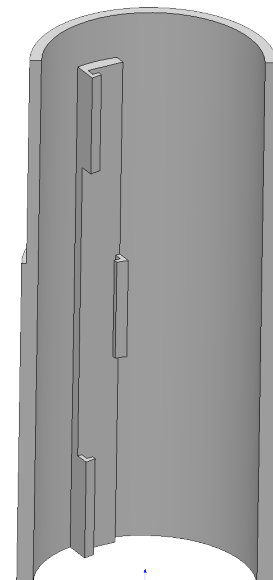

Fig. 46
Step 5. You can use the Down Arrow key to view Hook housing cuts, **Fig. 46**.